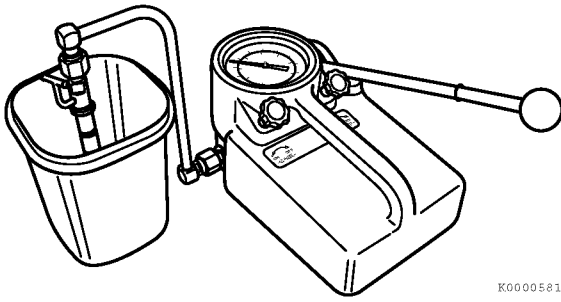

Figure 7-44
4. Pump the operating lever of the tester slowly, observing the pressure reading at the point where the fuel injector begins spraying fuel (**Figure 7-44**).